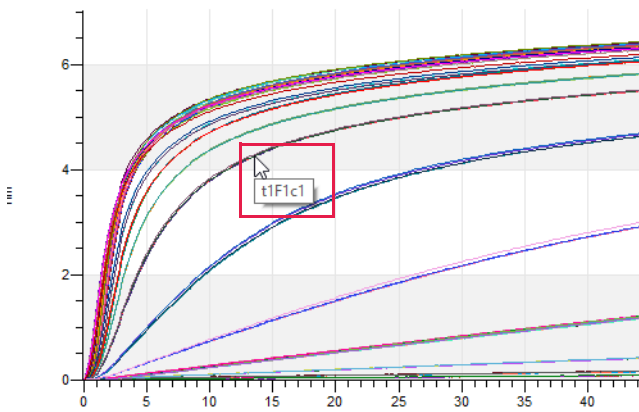

Figure 9-37: Show Series Name on Tooltip Selected
- **Show Series Name on Tooltip** - Checking or deselecting this box shows (Figure 9-37) or hides the tooltip when you hover over a trace on the graph.